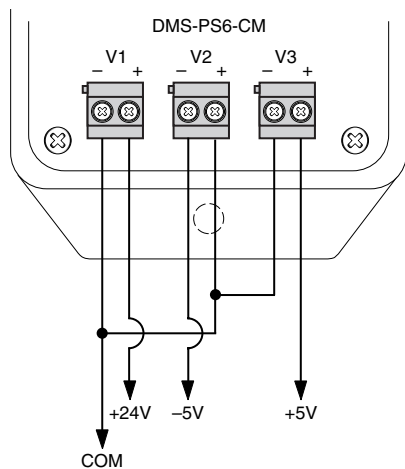

Figure 5. Bipolar Connections
2. Bipolar Operation (See Figure 5): DMS-PS-CM power supplies' fully isolated outputs allow for the generation of bipolar (positive and negative) supply voltages. Bipolar outputs can be used to power dual-supply operational amplifiers, as well as any other type of instrumentation that requires bipolar supply voltages. However, please keep in mind that when connecting and operating any two outputs in this fashion, each output retains its maximum current rating.